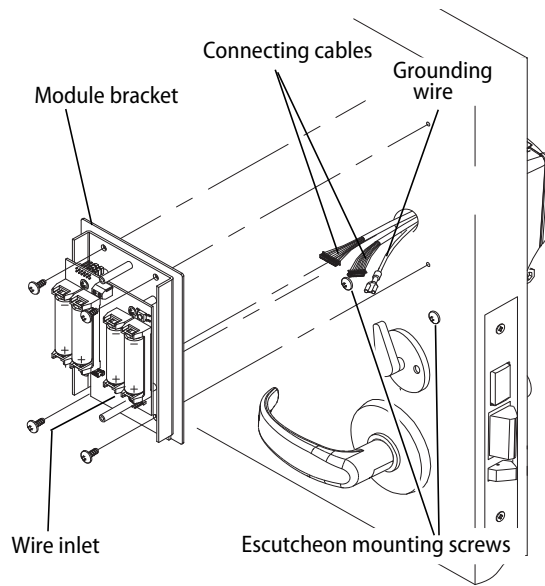

Figure 1 Inside circuit module
- 2 Thread connecting cables, motor wire and grounding wire through the door cable hole. Use screws and washers to attach the escutcheon from the inside of the door. See Figure 1.